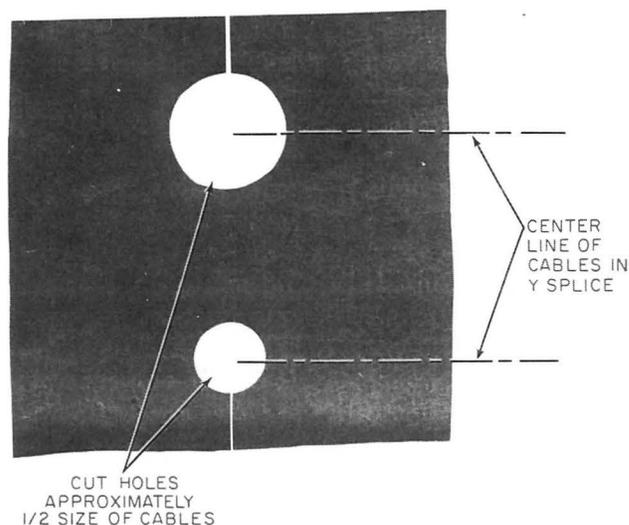

Fig. 6—Prepared Crotch Saddle
5.03 Prepare a crotch saddle for a Y-joint as follows: (See Fig. 6.)